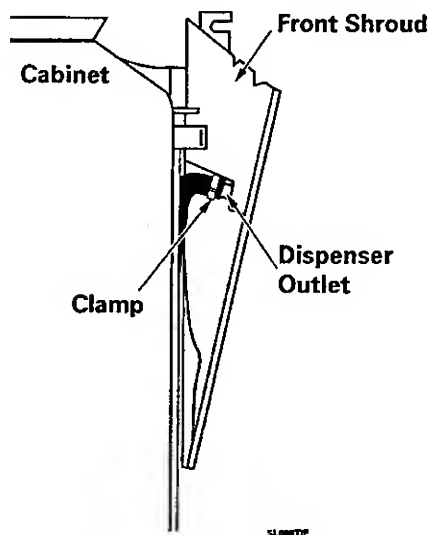

Figure 5-9
8. Carefully press in on the sides of the plastic shroud to allow the hose clamps on the dispenser outlet hoses to clear the metal bridge support surrounding the shroud (*Figure 5-9*).
9. Tilt the top of the plastic shroud forward at a 40 degree angle and slide the shroud to the right approximately one inch. Note: You may have to lightly press in on the the upper sides of the plastic shroud to enable the lower dispenser outlet hose clamps enough clearance to pass the metal side supports (**Figure 5-9**). Lift the shroud from the shroud support bridge.